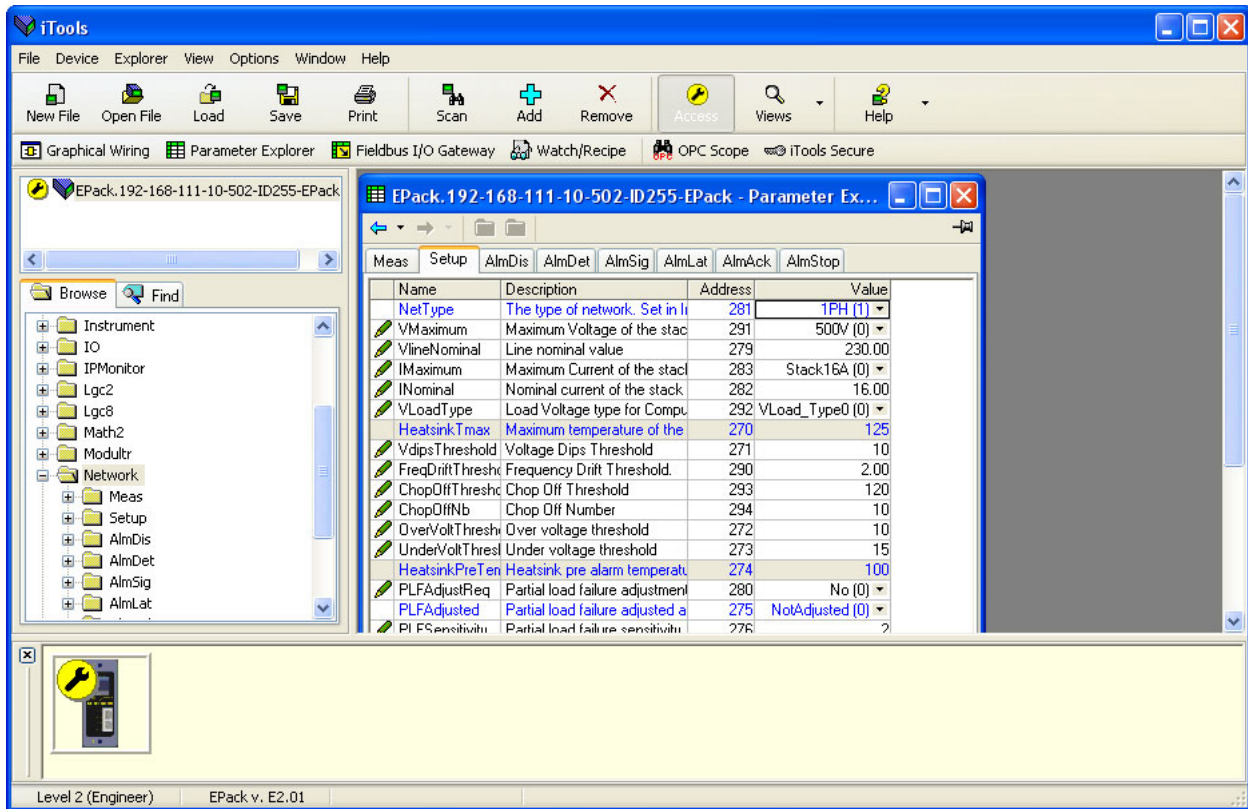
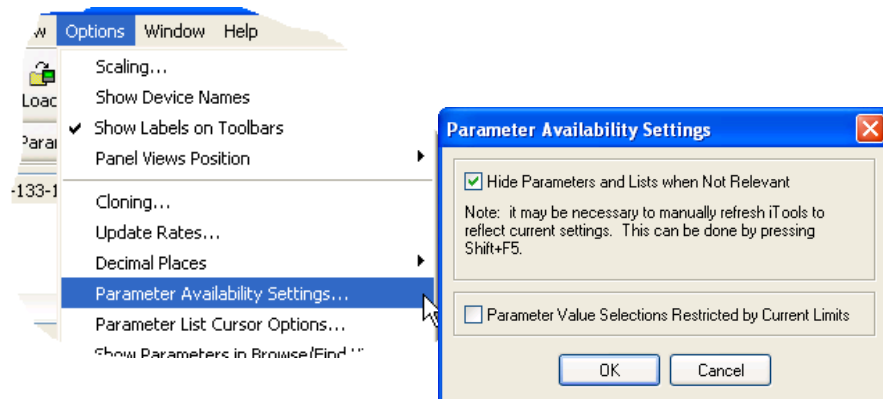

Figure 136 Parameter table example
Figure 139 Show/Hide parameters
In each case the function block parameters appear in the iTools window in tabular form, such as the example in Figure 136.
- Parameters in blue are non-editable (Read only). In the example above all the parameters are read only. Read/write parameters are in black and have a 'pencil' symbol in the 'read/Write access column at the left edge of the table. A number of such items are shown in Figure 136, above.
- Columns. The default explorer window (Figure 136) contains the columns 'Name', 'Description', 'Address' and 'Value'. As can be seen from Figure 139, above, the columns to be displayed can be selected, to a certain extent, using either the 'Explorer' menu or the context menu. 'Limits' have been enabled for the example above.
- Hidden Parameters. By default, iTools hides parameters which are considered irrelevant in the current context. Such hidden parameters can be shown in the table using the 'Parameter availability' settings item of the options menu (Figure 139). Such items are displayed with a shaded background.